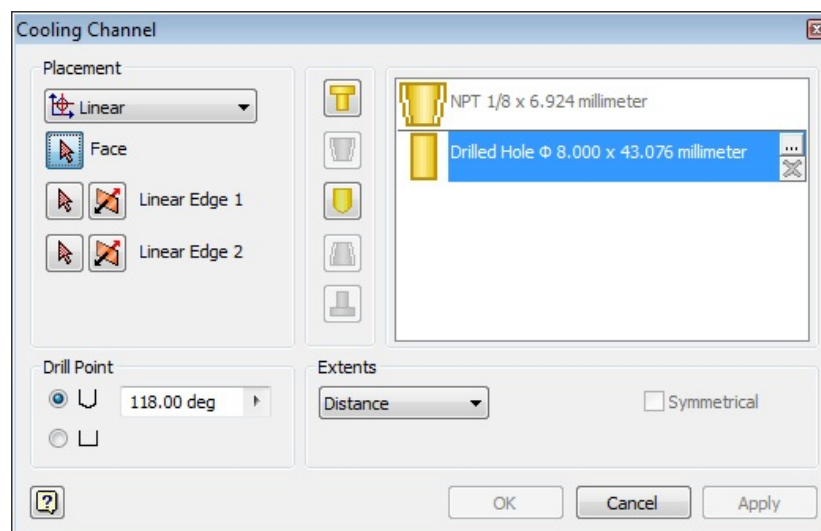

Figure 19-91 The Cooling Channel dialog box
1. Choose the **Cooling Channel** tool from the **Runners and Channels** panel in the **Mold Layout** tab of the **Ribbon**; the **Cooling Channel** dialog box is displayed, refer to Figure 19-91 and you are prompted to select a face for specifying the position of the cooling channel.